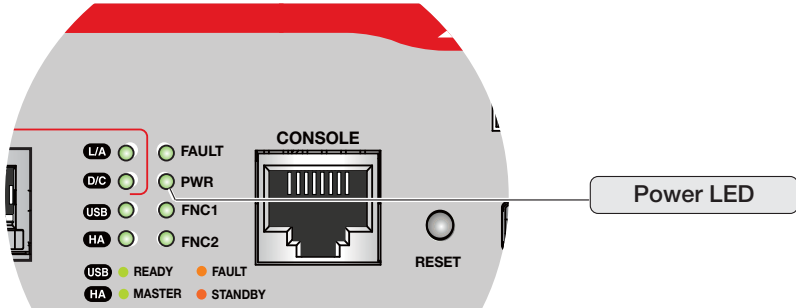

Figure 4. Power LED
**Power LED** The Power LED reports the status of AC power. The LED is shown in Figure 4.